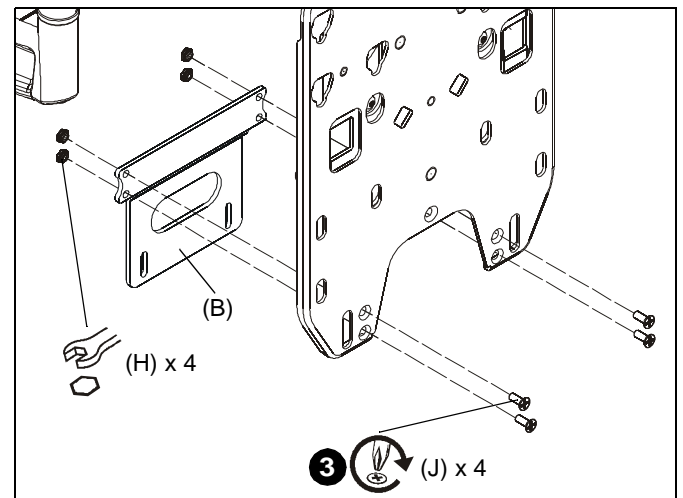

Figure 4
3. Use four #10-24 x 1/2" Phillips flat head cap screws (J) and four #10-24 lock nuts (H) to connect second attachment bracket (B) to lower holes on faceplate. (See Figure 4)